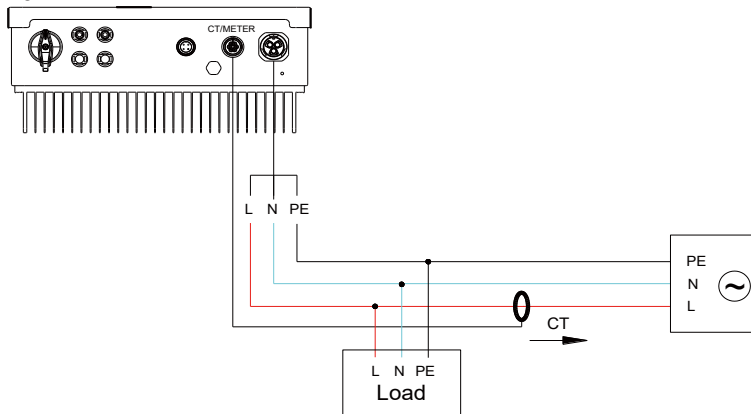

FIG.2 Electrical and signal connection diagram
- 2) Stuck CT on the tested cable (pole-L), then close the buckle, as per FIG.8 and FIG.2.